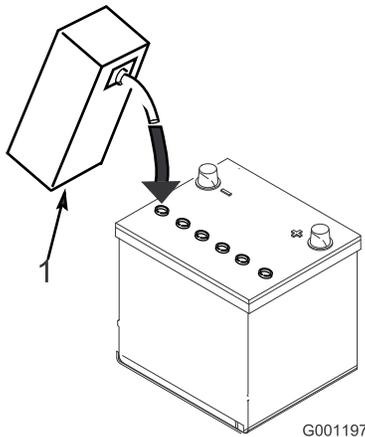

Figure 10
3. Carefully fill each cell with electrolyte until the plates are covered with about 6 mm (1/4 inch) of fluid (Figure 10).
Note: Refill as necessary to bring the electrolyte to within about 6 mm (1/4 inch) of the bottom of the fill well (Figure 10).